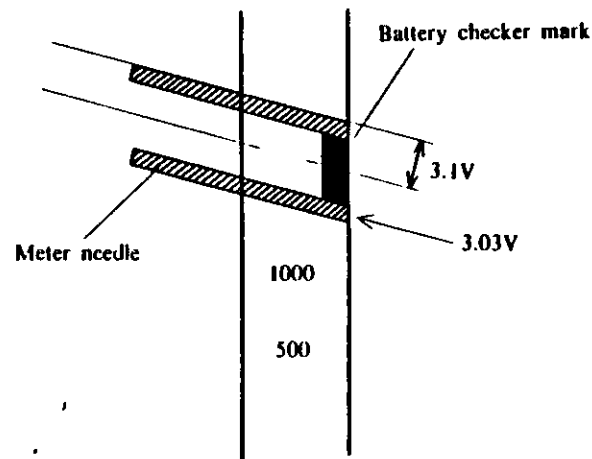

Fig. 27
- b) Adjust checker with VR1, turning the release holder clockwise, so that the meter needle enters the battery checker of Fig. 27.
- 2) The indication of the battery used is  $1.5V \times 2 = 3.0V$ , but as the actual capacity is 3.1V, checker adjustment is 3.03V and must be adjusted at the position as shown in Fig. 27.